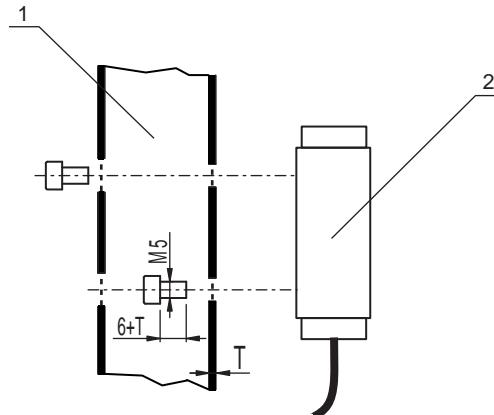

Figure 6.1: Hinge mounts; length of the fastening screws =  $6 + T$  mm
- M5 fastening screws of the correct length (see figure 6.1)
- ❖ Measure the length of the M5 screws exactly (see figure 6.1).